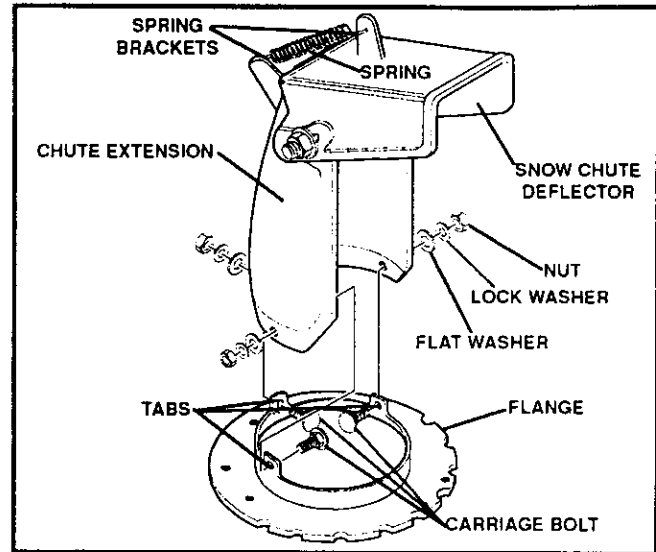

FIG. 3
- Replace carriage bolts from inside of chute as shown in FIG. 3, flat washers, lock washers, nuts and tighten.